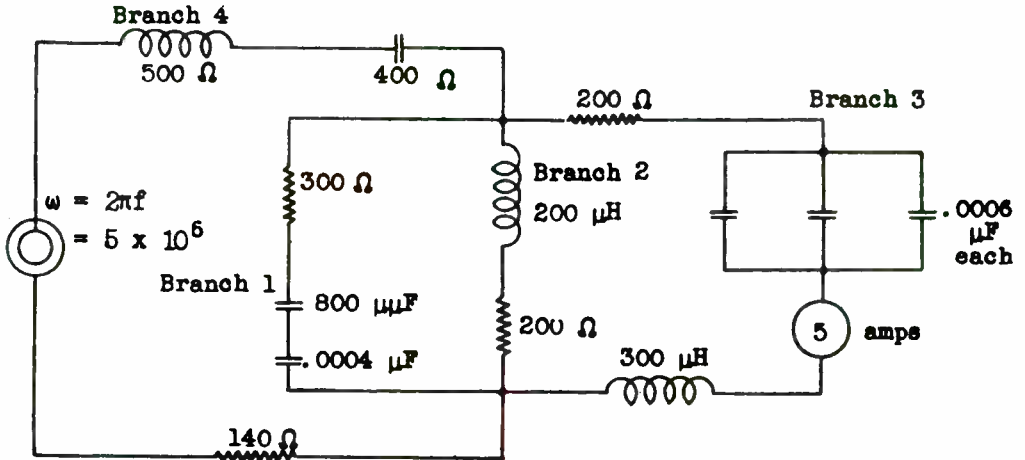

Fig. 1.
2. Reference Fig. 1. If each capacitor in Branch 3 has a series R of 4 ohms, how much power is dissipated in the capacitor combination? What is the p.f. of each capacitor?
3. Reference Fig. 1. What inductance or capacity inserted in series with the generator (Branch 4) would be necessary to resonate the entire circuit? What would be the nature and value of the impedance at resonant frequency?